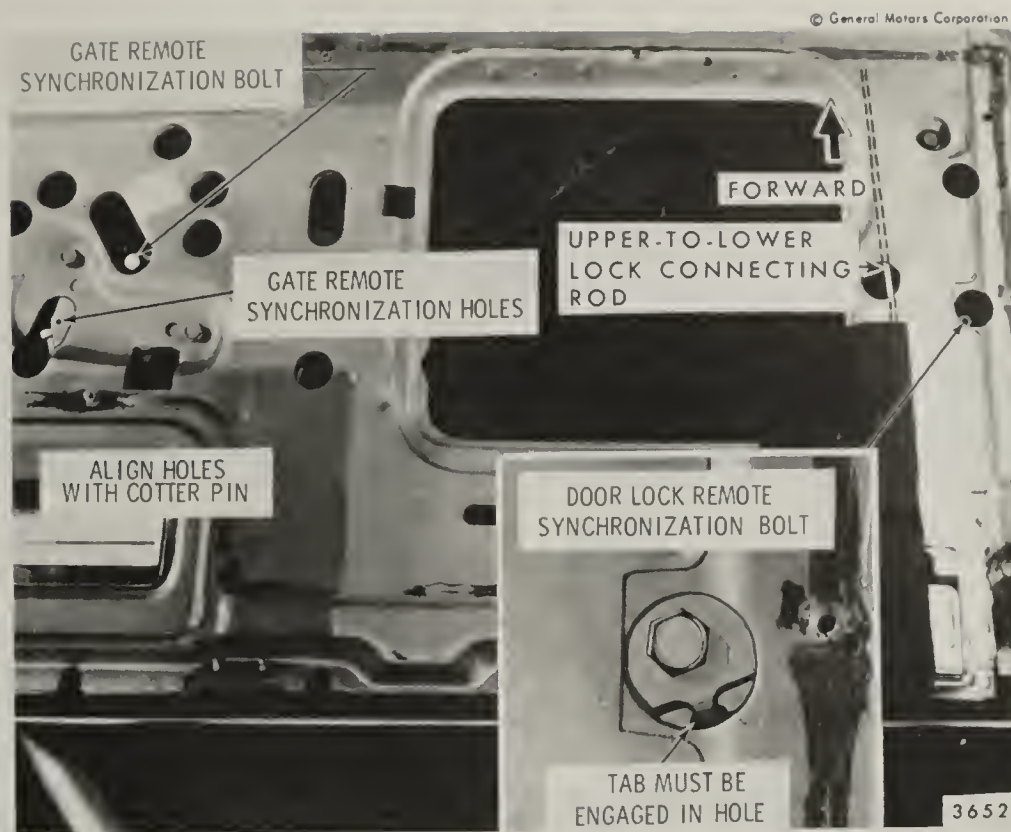

Fig. 21-15. Dual acting tail gate lock synchronization check points. (Fisher Body)
5. With all locks in locked position, visually check gate remote synchronization holes in gate remote control levers (center of gate as shown in Fig. 21-15). If holes line up, proceed with step 7. If the holes do not line up, loosen (turn to right approximately three turns) gate remote control synchronization bolt (this bolt has left hand threads). With synchronization bolt loose, check that there is no bind in remote levers. Align holes by inserting a cotter pin through alignment hole in both levers (Fig. 21-15). Then tighten synchronization bolt to 57-87 in. lb. Remove cotter pin.
6. With all locks in locked position and with the right lower lock securely engaged with the striker, loosen by approximately three turns, the door lock remote synchronization bolt at upper right lock, Fig. 21-15.
through the access hole and hold lower-to-upper lock connecting rod FORWARD Fig. 21-15, while tightening door lock synchronization bolt to 76-116 in. lb. Make sure tab on door lock remote synchronization lever is properly engaged in hole.
Note: The action of loosening the lock synchronization bolt can readily unlock the right lower lock causing the right side of the gate to disengage from the striker. To help prevent this from occurring, reach through access hole and hold the upper-to-lower lock connecting rod, Fig. 21-15, FORWARD while loosening synchronization bolts.